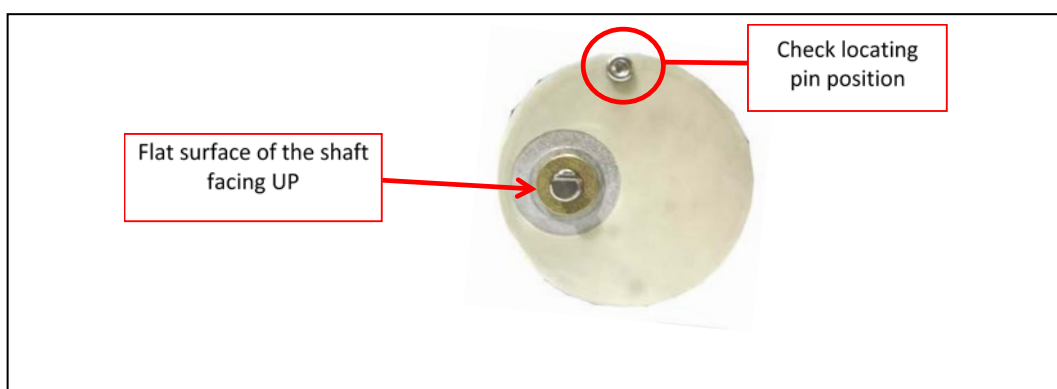

Figure 6. Shaft Position
13. Check the position of the flat surface of the shaft relative to the locating pin. The flat surface should be oriented facing up, (refer to the Figure 6) ready to be inserted in the worm gear.